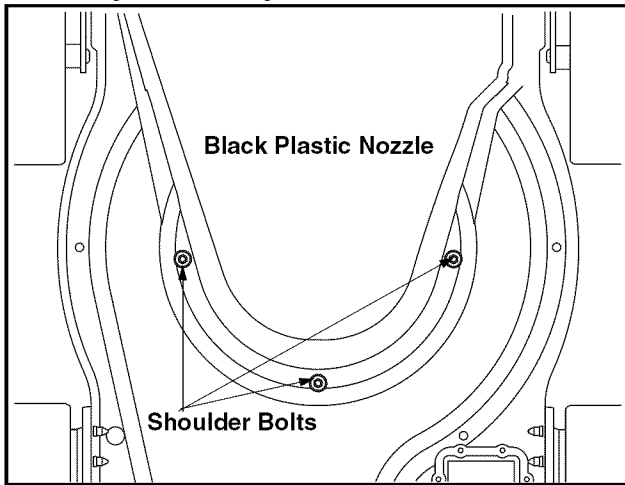

Figure 23
- Carefully tilt and support the unit up to provide access underneath to the nozzle mounting hardware and impeller. Remove the three shoulder bolts securing the black plastic nozzle to the lower housing. Refer to Figure 23.